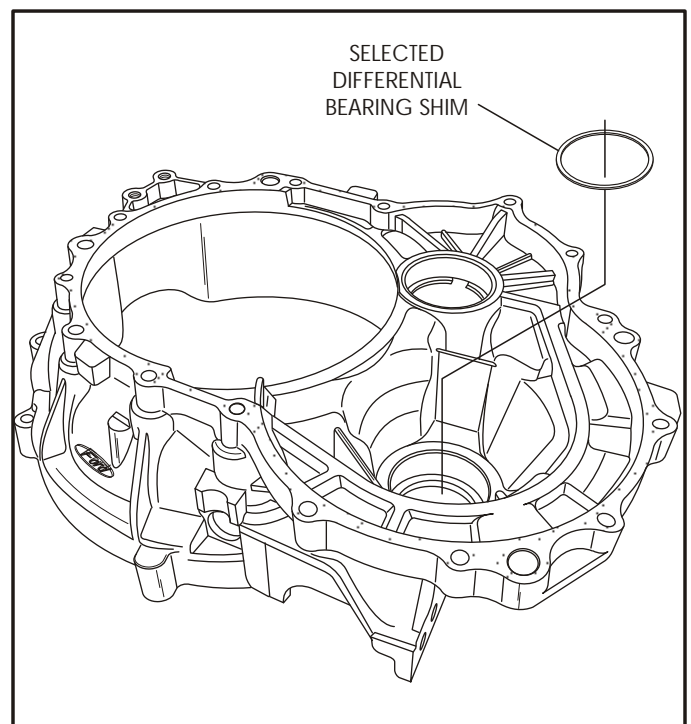

Figure 144
65. Install the selected shim for the differential bearing into the converter housing, as shown in Figure 144.